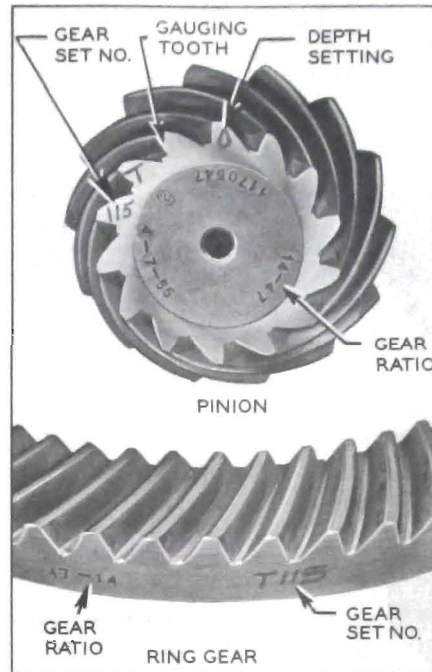
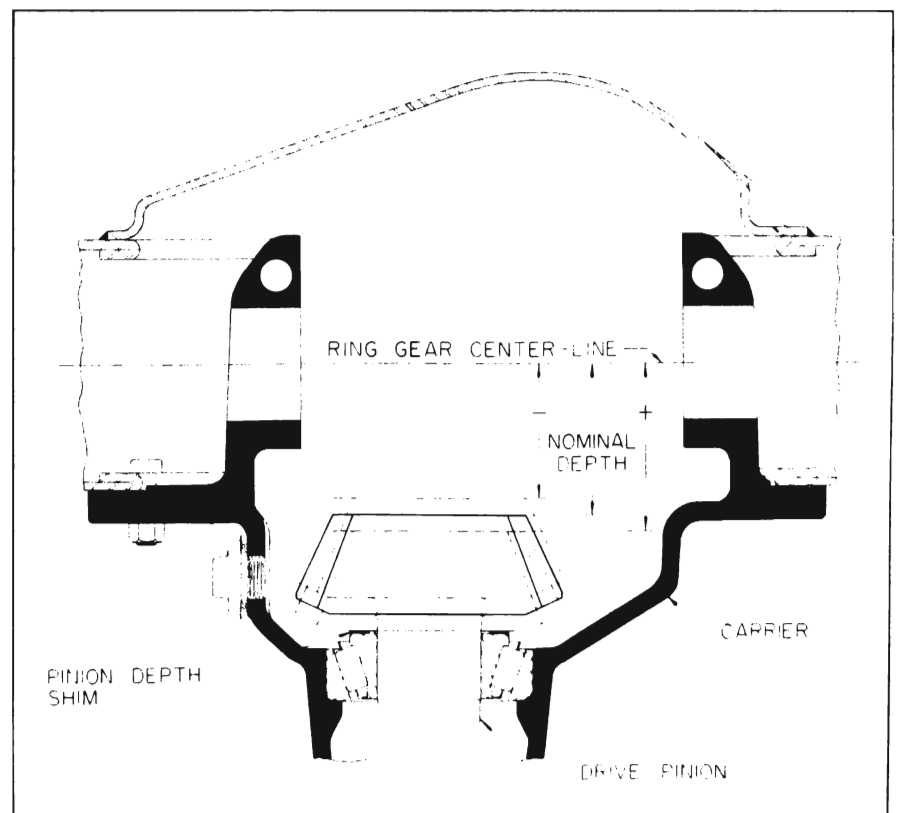

Figure 6-26—Ring and Pinion Gear Set Markings
Figure 6-27—Nominal Pinion Depth Setting
All Buick ring and pinion gear sets are selectively matched for best operating position and proper tooth contact. After matching, a serial number is etched on one tooth of pinion and on rear face of gear to aid in keeping matched parts together. See Figure 6-26. Parts having different serial numbers must never be used together.
This variation in thousandths of an inch over or under the "nominal" setting is etched on the small end of a pinion tooth. See Figure 6-26. When a pinion is marked "+" (plus) it means that the rear face of the pinion when pressed in the carrier must be at the "nominal" distance from the centerline of the side bearing pedestals plus the amount indicated on the pinion tooth. When a pinion is marked "-" (minus) it means that it must be located at the "nominal" distance minus the amount indicated on the pinion tooth. See Figure 6-27.
7. Rotate the pinion until the black tooth between the matching number and the pinion setting mark is slightly counterclockwise of top center (at about 11 o'clock). This tooth is called the gauging tooth (Figure 6-26) because it is used for locating and gauging during production and should therefore be used for gauging in service.
3. Increase or decrease thickness of shim as required to obtain proper pinion setting. See Figure 6-27.
3. Check matching numbers on ring gear and pinion to make sure the two parts have not been mixed with another gear set. See Figure 6-26.